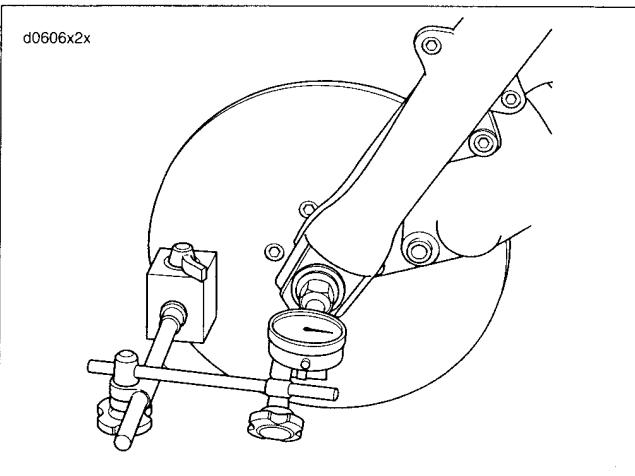

Figure 2-13. Wheel Bearing Inspection
2. See Figure 2-13. Mount a magnetic base dial indicator to the brake disc with the dial's contact point on the end of the axle.